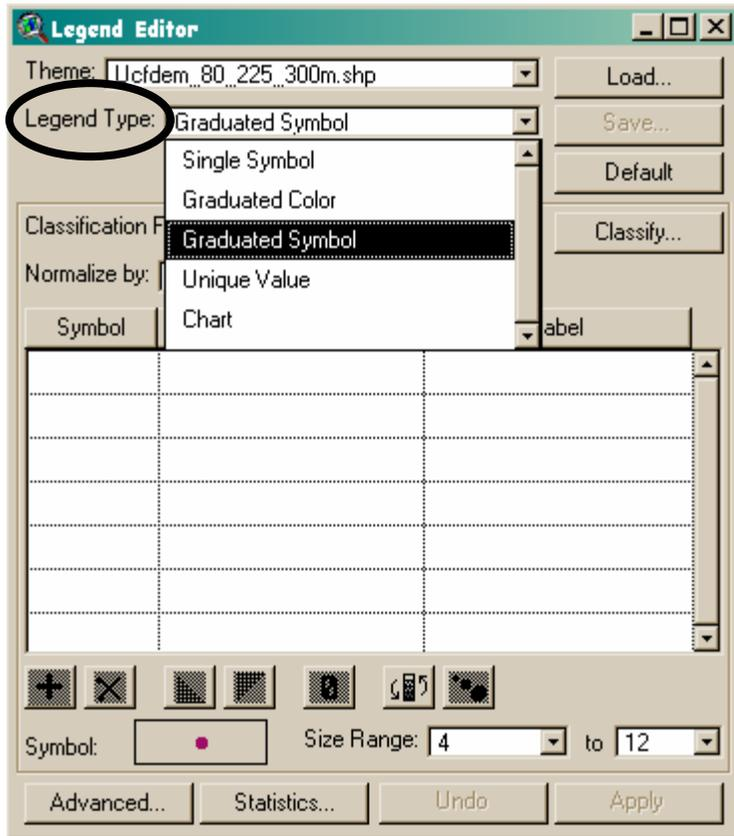

Figure 2. Legend Editor dialog box showing Legend Type selection for display in ArcView.
2. After loading the file into the ArcView project open up the **Legend Editor** (Figure 2) by double clicking on the shapefile in the view. The first step is to select the **Legend Type** by selecting the drop down arrow and selecting **Graduated Symbol**.